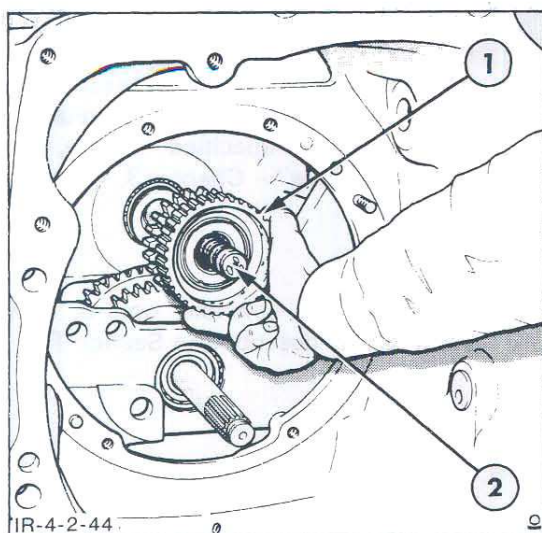

Figure 44
4. Remove the reverse idler input gear, thrust washer, needle bearings and shims from the rear input shaft, Figure 44, if not removed with the clutch housing.